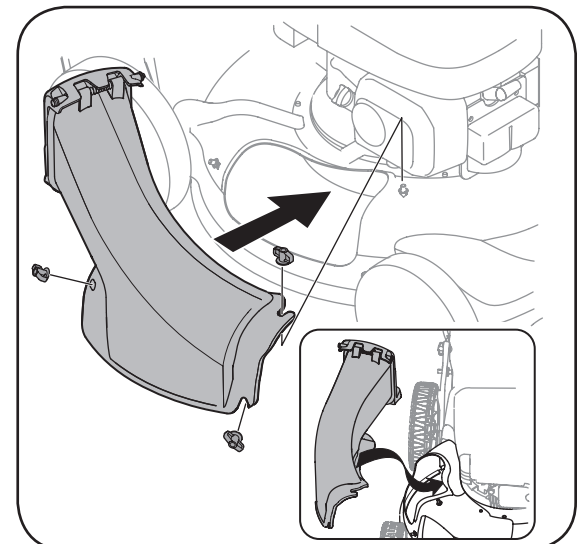

Figure 3-4: Use wing nuts to secure discharge chute to deck.
- b. Replace with discharge chute, while making sure the front lip of chute goes under the edge of the deck. Secure with wing nuts previously removed. See Figure 3-4.